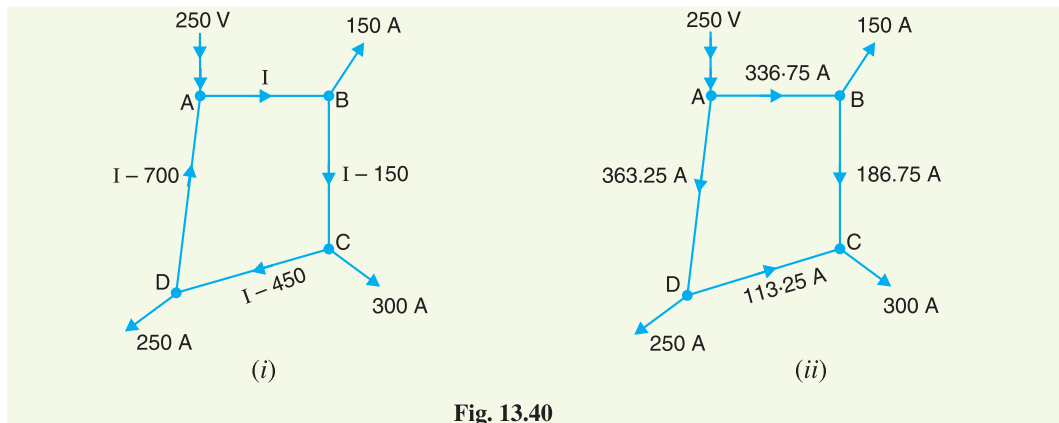

Fig. 13.40
**Without Interconnector.** Fig. 13.40 (i) shows the ring distributor without interconnector. Let us suppose that a current  $I$  flows in section  $AB$  of the distributor. Then currents in various sections of the distributor will be as shown in Fig. 13.40 (i).
The actual distribution of currents is as shown in Fig. 13.40 (ii).